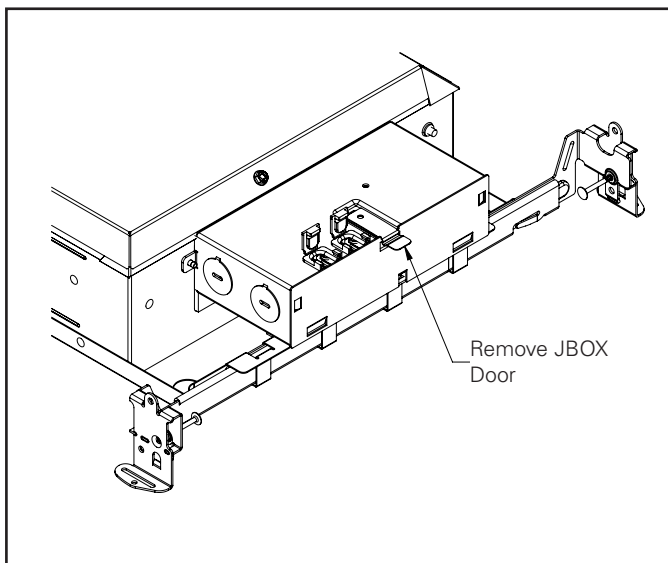

Figure 11.
1. Remove outer JBOX door. Connect supply leads and appropriate dimming/ controls leads as specified in the wiring diagrams and in accordance with your local electrical code(s) or N.E.C. (see Figure 11).
5. See Figure 11 & 12 for visual assistance.